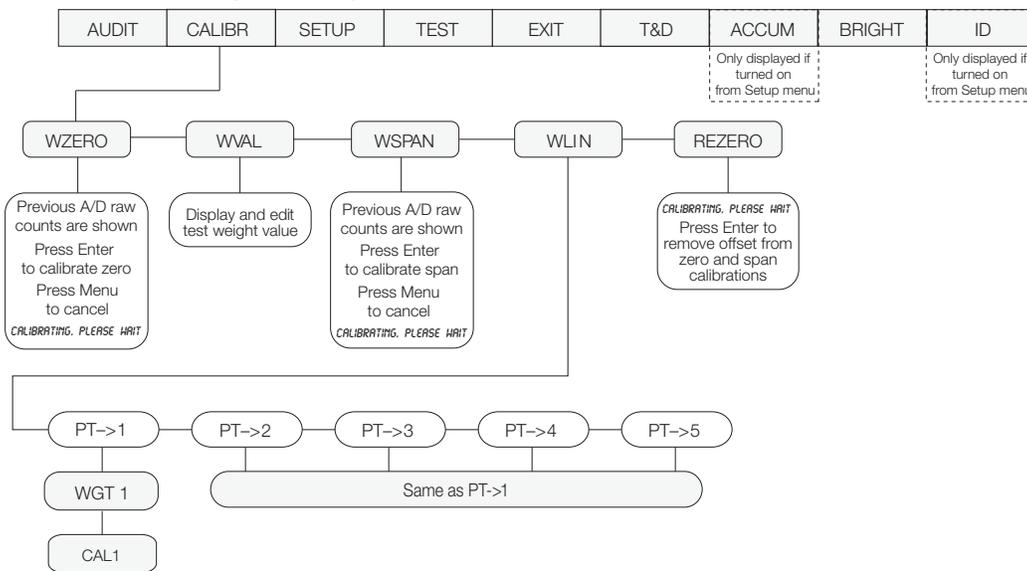

Figure 4-1. Calibration (CALIBR) menu
Note Calibration can be performed in two places within the menu: the CALIBR menu shown in Figure 4-1 and the SCALE submenu shown in Figure 3-5 on page 16. The CALIBR menu is a “quick access” calibration; for more in-depth scale setup and calibration, use the menus found under SETUP»CONFIG»SCALE.
1. Press the MENU button, then press \triangleright until the display reads CALIBR (see Figure 4-1).